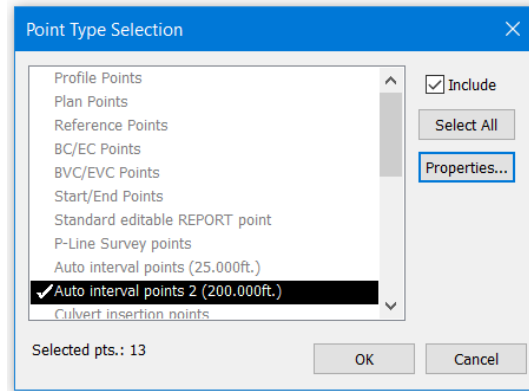

Figure 23-13: Point Type Selection Dialogue Box
8. Click *Point Selection...* button to open the *Point Type Selection* dialogue box. Include only *Auto interval points 2* (Figure 23-13). <Double-click> or select and set *Include*.